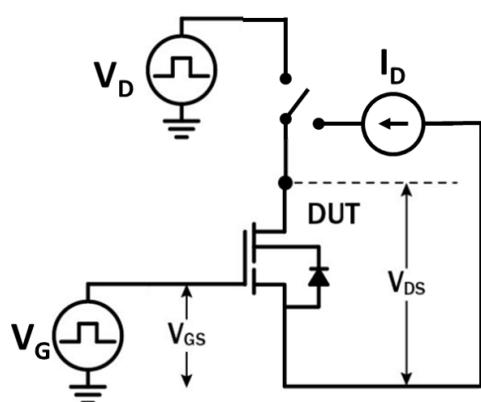

Figure 18. Dynamic $R_{DS(on)eff}$ Test Circuit
- g. Dynamic $R_{DS(\text{on})}$ value; see Figures 18 and 19 for conditions